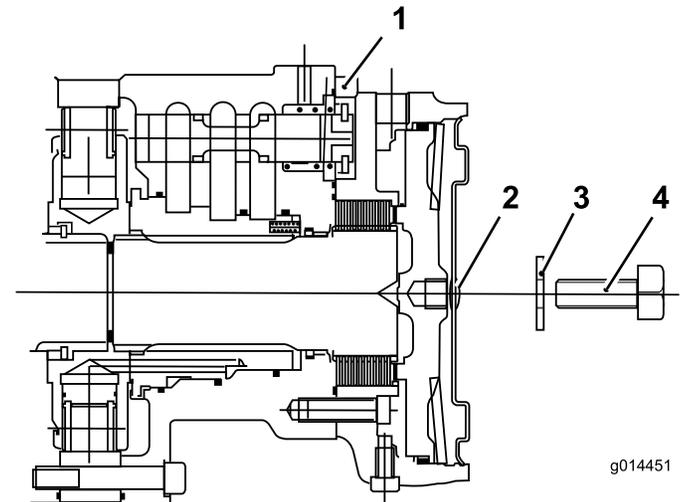

Figure 65
- C. Assemble the hex plug into the motor end plate (Figure 65).